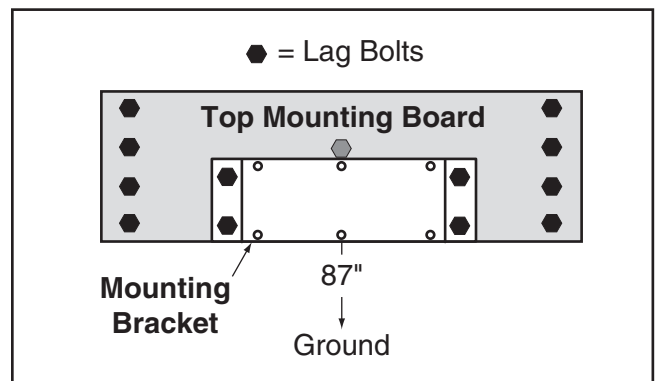

Figure 4. Mounting bracket secured to top mounting board.
2. Secure large wall mounting bracket to top mounting board, aligning bracket with bottom of board (see **Figure 4**).